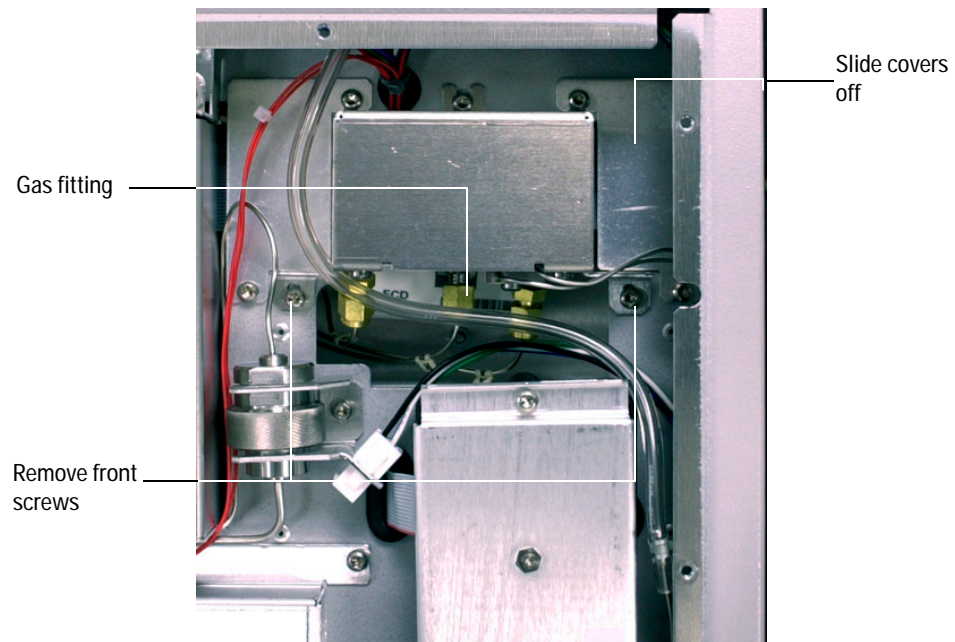

Figure 5 Removing the flow module
- 7 Remove the gas fitting from the flow module (Figure 5).